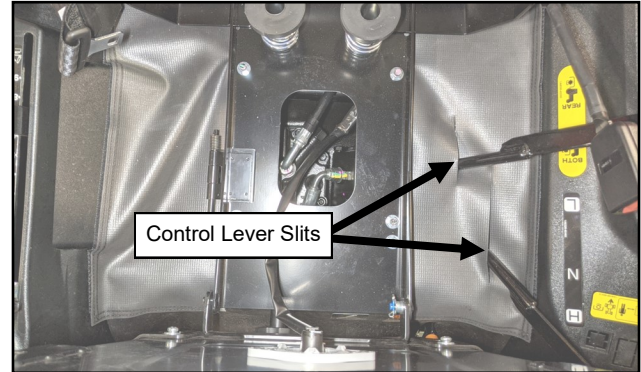

Fig. 21.2 (Set Filler In Place)
- 21.2 Tip the seat forward and set the filler in place starting with the slits for the control levers on the left side. See Figure 21.2. Do not stick Velcro yet.